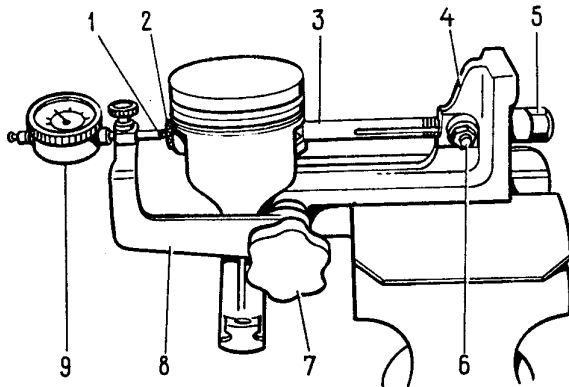

Fig. 2-33. Assembled Piston-Pin-Connecting Rod Group Installed on Tester A.95615 for Pin Pressing-Out Test:
- clamp tester base 4 (Fig. 2-33) in a vice and install the piston pin-connecting rod assembly on it;